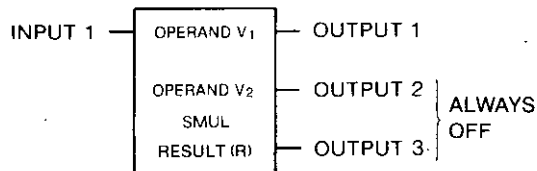

Fig. 5.45 SMUL General Form
(2) Form
- Fig. 5.45 shows the form of signed multiply (SMUL).